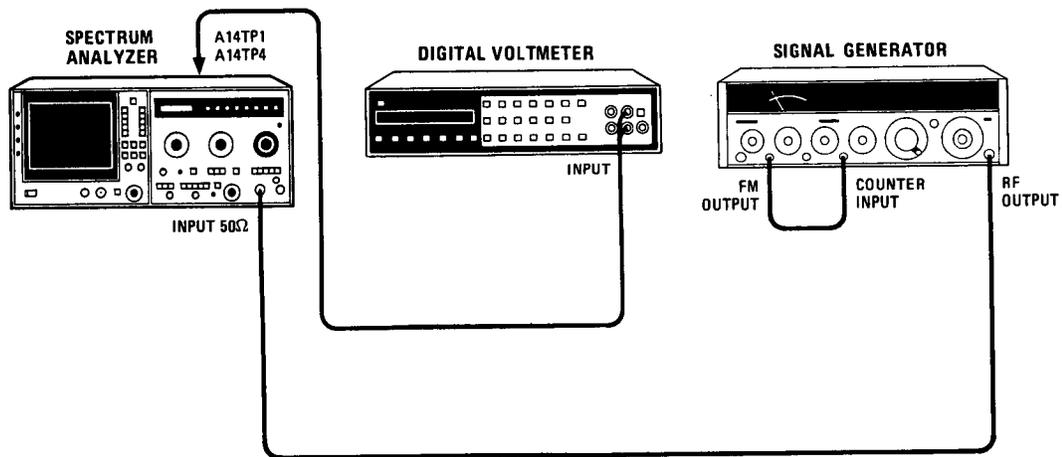

Figure 5-40. Tuning Stabilizer Control Adjustment Test Setup
2. Reconnect power cord, set LINE switch ON, and connect equipment as shown in Figure 5-40 with signal generator RF switch off.